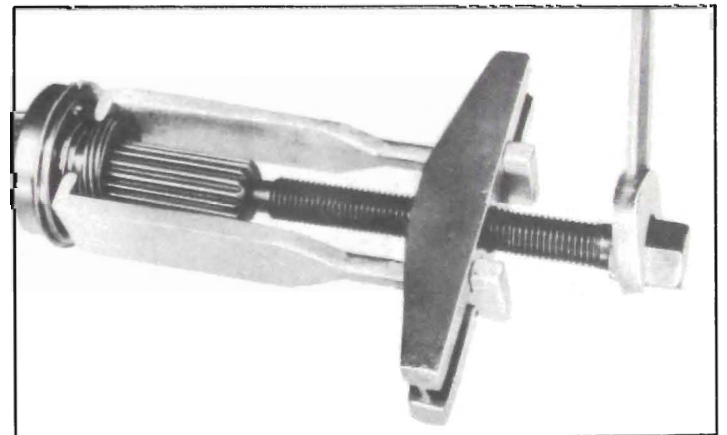

Figure 4-49—Removing Worm Gear with Puller J1134
18. Remove speedometer worm gear, spacer, bearing and thrust washer from main shaft, using Puller J 1134 to remove worm gear and bearing. See figure 4-49.
6. Move main shaft back until rear bearing is clear of case. Remove snap ring from bearing, then pull bearing, spacer, and speedometer worm gear from shaft, using Puller J 1134. See figure 4-49.